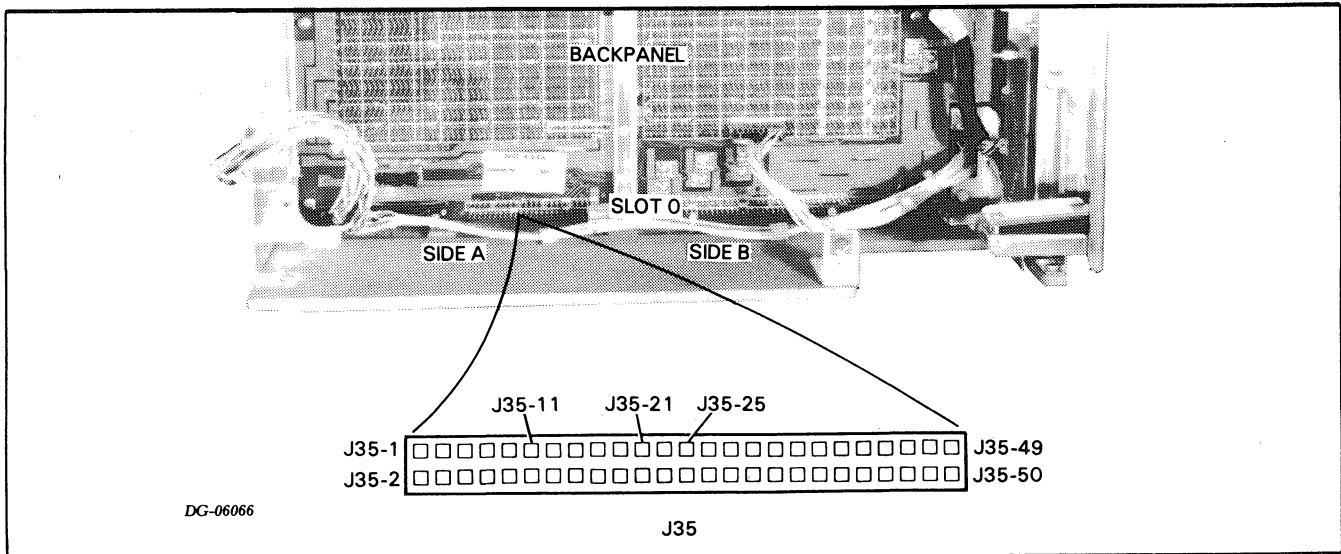

Figure 6.7 JACK J35
4. Short **MEMD** at J35-21 to **GND** at J35-1 (see Figure 6.7).
- Check the -11V voltage at J35-25 (see Figure 6.7).
- b. If the light is NOT on, check the $\overline{\text{ONLED-P}}$ voltage at J35-11 (see Figure 6.7).
2. Check the **+12 MEM** voltage at location J35-3 (see Figure 6.7).